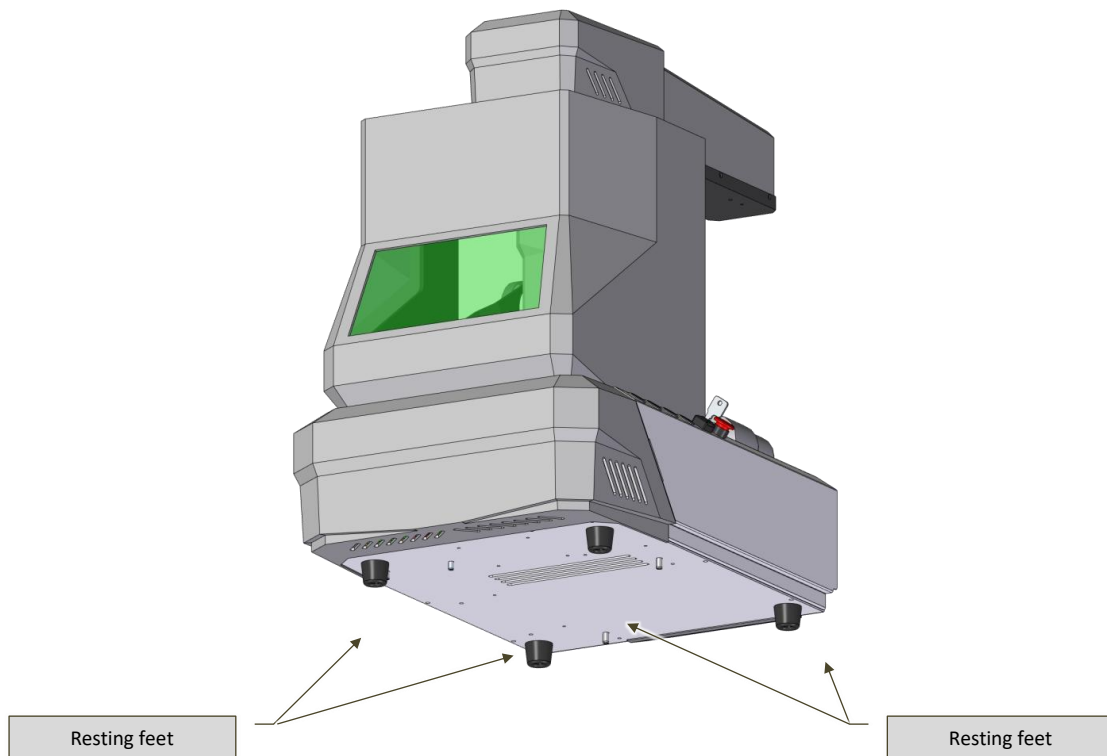
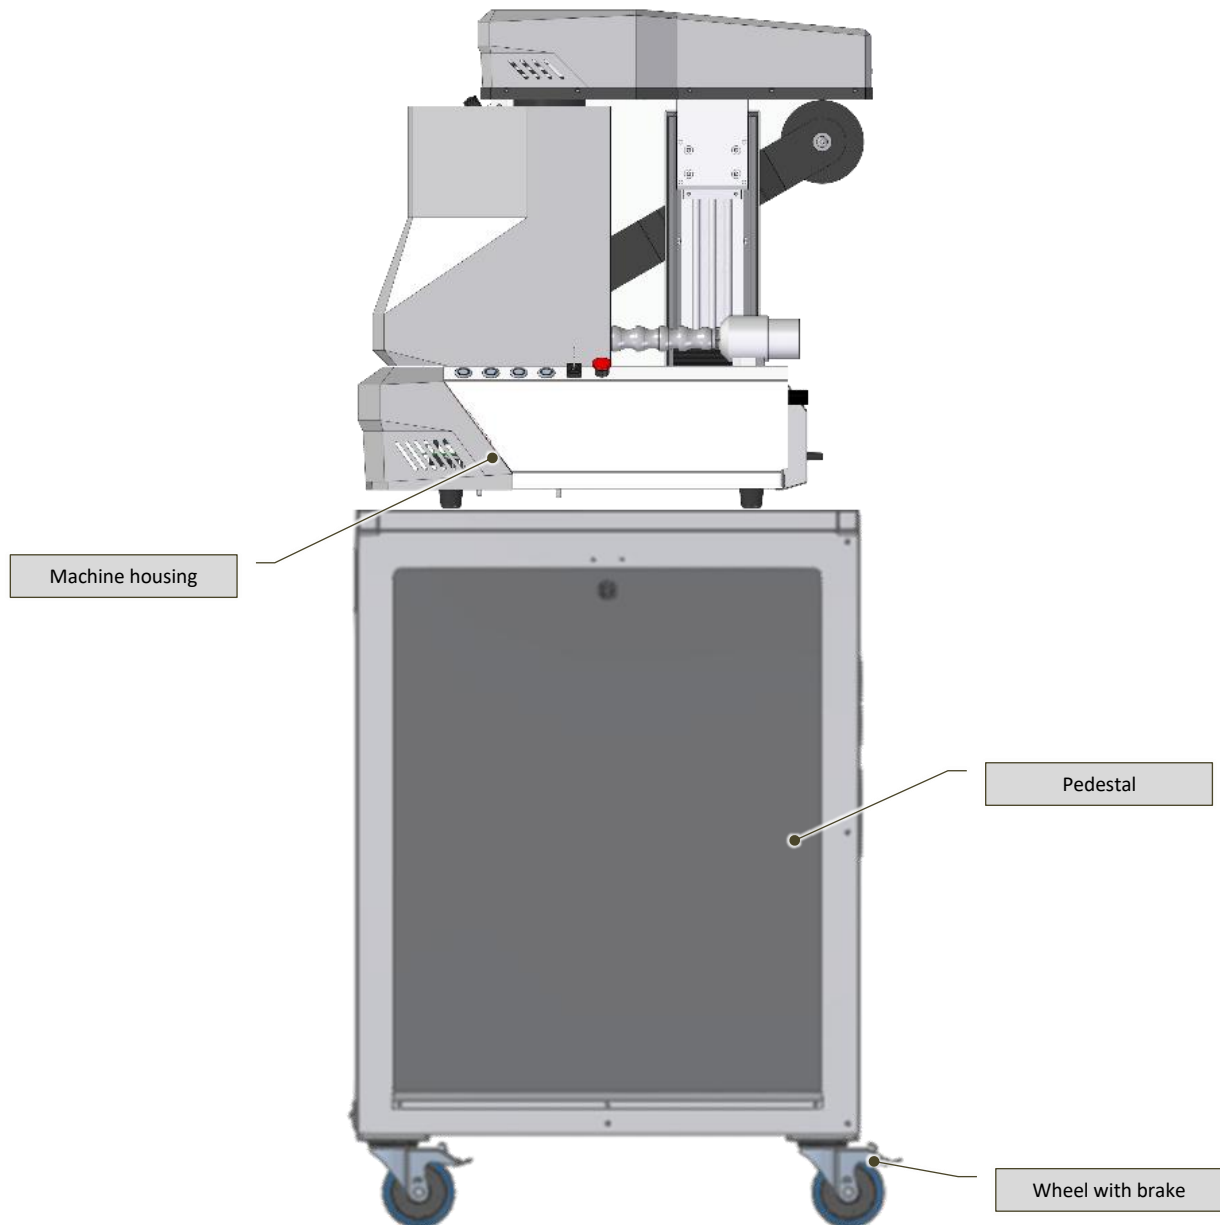

Fig. 6-5 – Machine resting feet
Fig. 6-6 – Machine positioning on the pedestal accessory
- Position the FIBERLUX NANO on the working plane or the pedestal supplied (with braked wheels, Fig. 6-6), so that: It rests on all four supporting feet (Fig. 6-5);